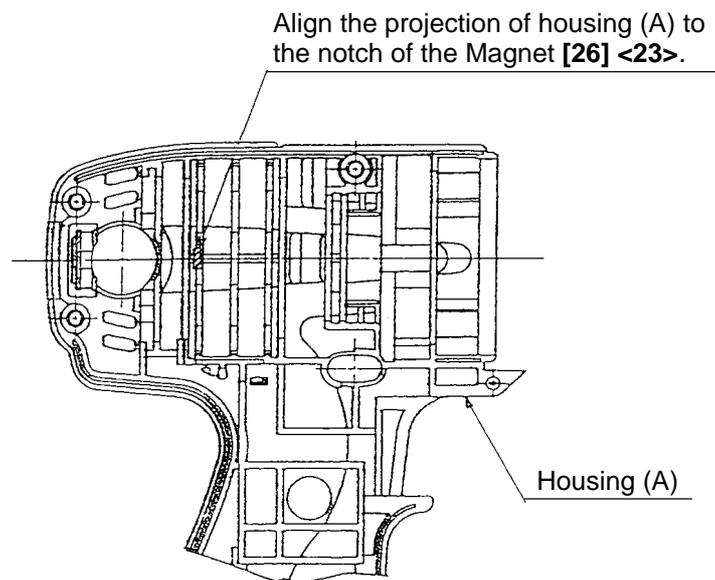

Fig. 15
(c) Mount a unit of the Inner Cover [24] <21> (including the Armature Ass'y [25] <22>), Magnet [26] <23> (including the Dust Guard Fin [27] <24>) and Brush Block [28] <25> into housing (A) (See Fig. 15). Pay attention to the following items.